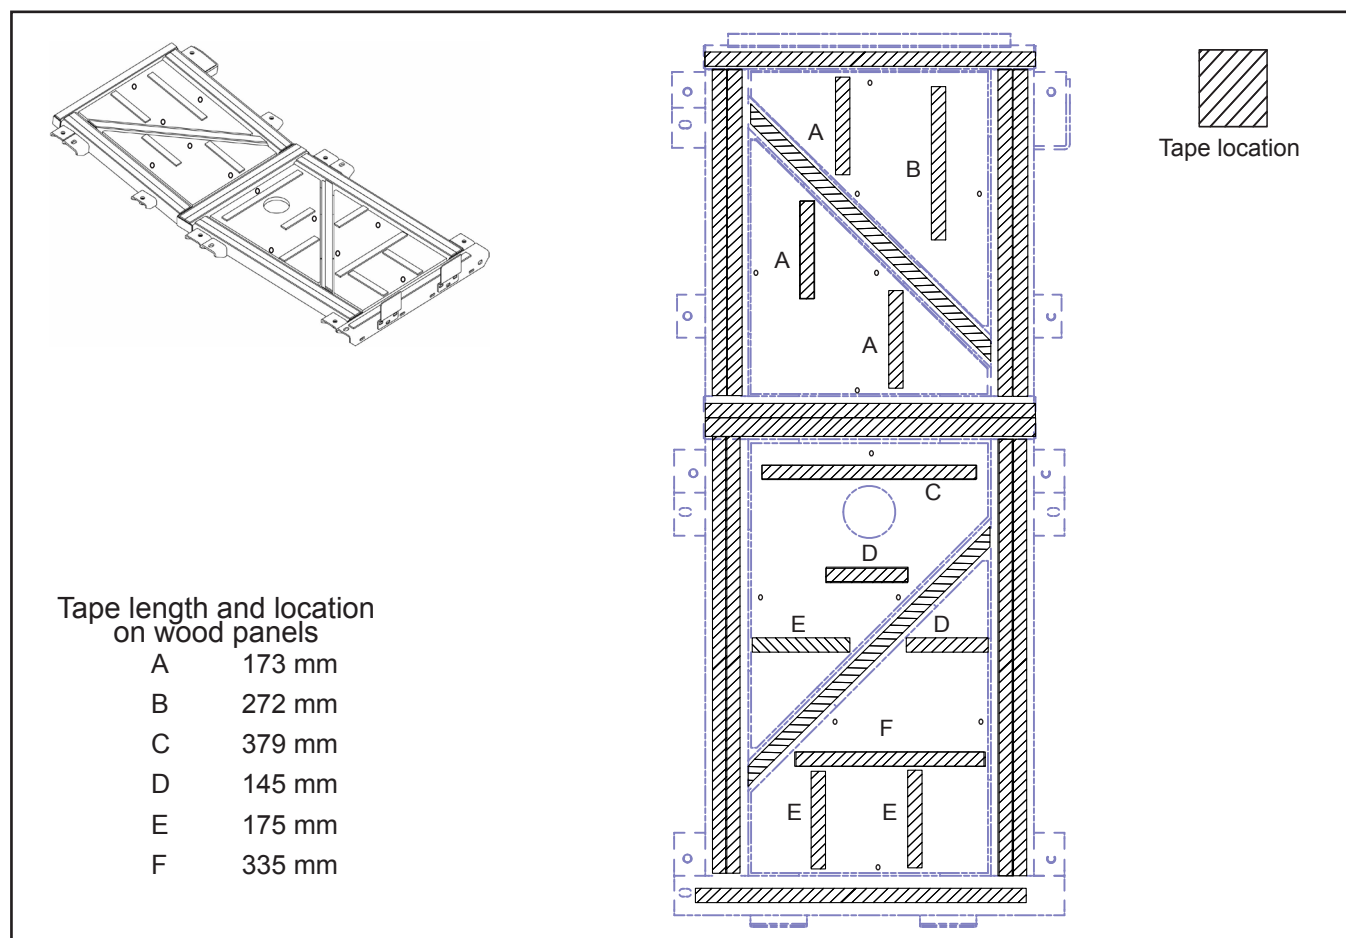

Figure 2 - Foam Tape Location
- 1.3. Affix N71249 foam tape on top of the wood panels and cradle. See Figure 2 for the approximate position and lengths of tape.